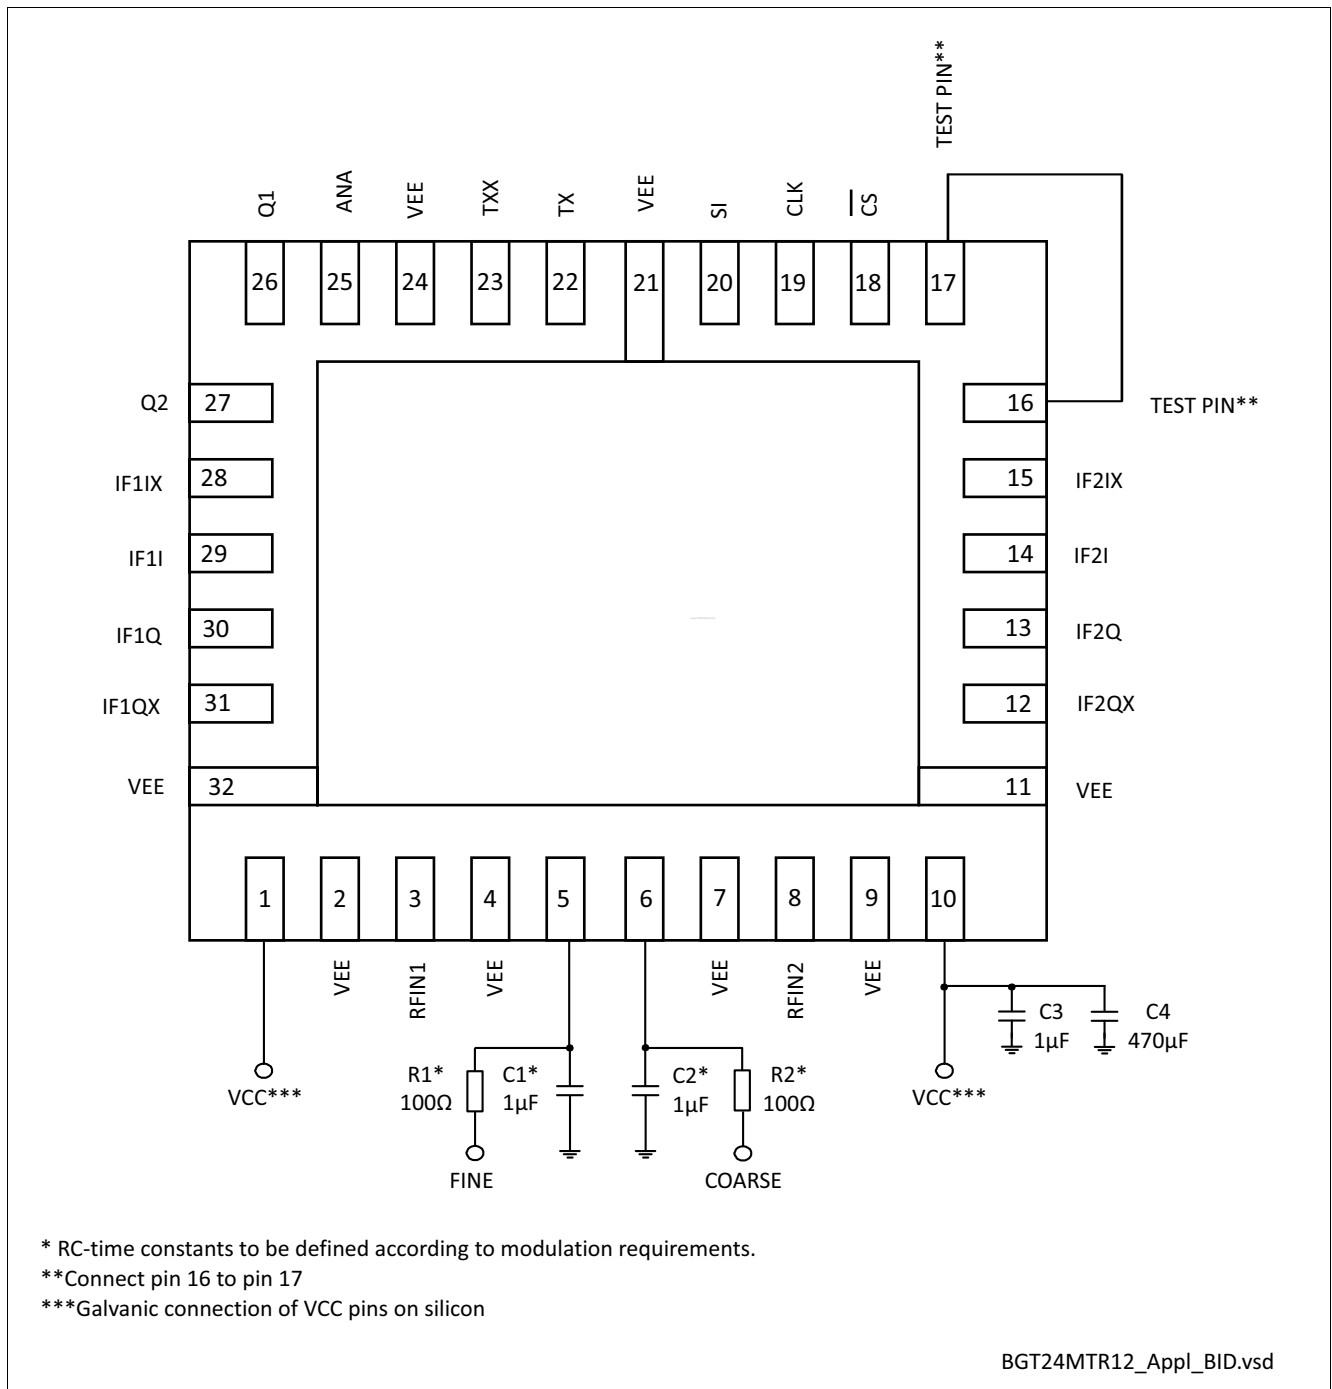

Figure 2 Application Circuit with Chip Outline (Top View)
- 1) Performance based on application circuit in Figure 2 on Page 14